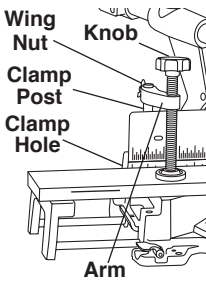

Figure 21. Workpiece Clamp
Clamps - The clamp easily secures a workpiece in either of two (2) clamp holes behind the fence (Figure 21 & 21a).